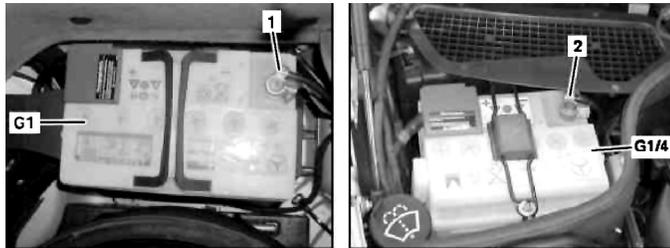

Fig. 1 Primary battery ground removal. Less (P99) AMG black series
6. Loosen nut, and disconnect ground line (1) from on-board electrical system battery (G1), **Fig. 1**.
8. Loosen nut, and disconnect ground cable (2) from starter battery (G1/4). Before disconnecting ground line (2) from starter battery (G1/4), ground line (1) must be disconnected from on-board electrical system battery (G1), otherwise components of electrical system may become damaged, **Fig. 1**.
5. Connect ground cable to starter battery (G1/4), **Fig. 1**. Ensure that ground line is seated tightly, otherwise terminal may be damaged.